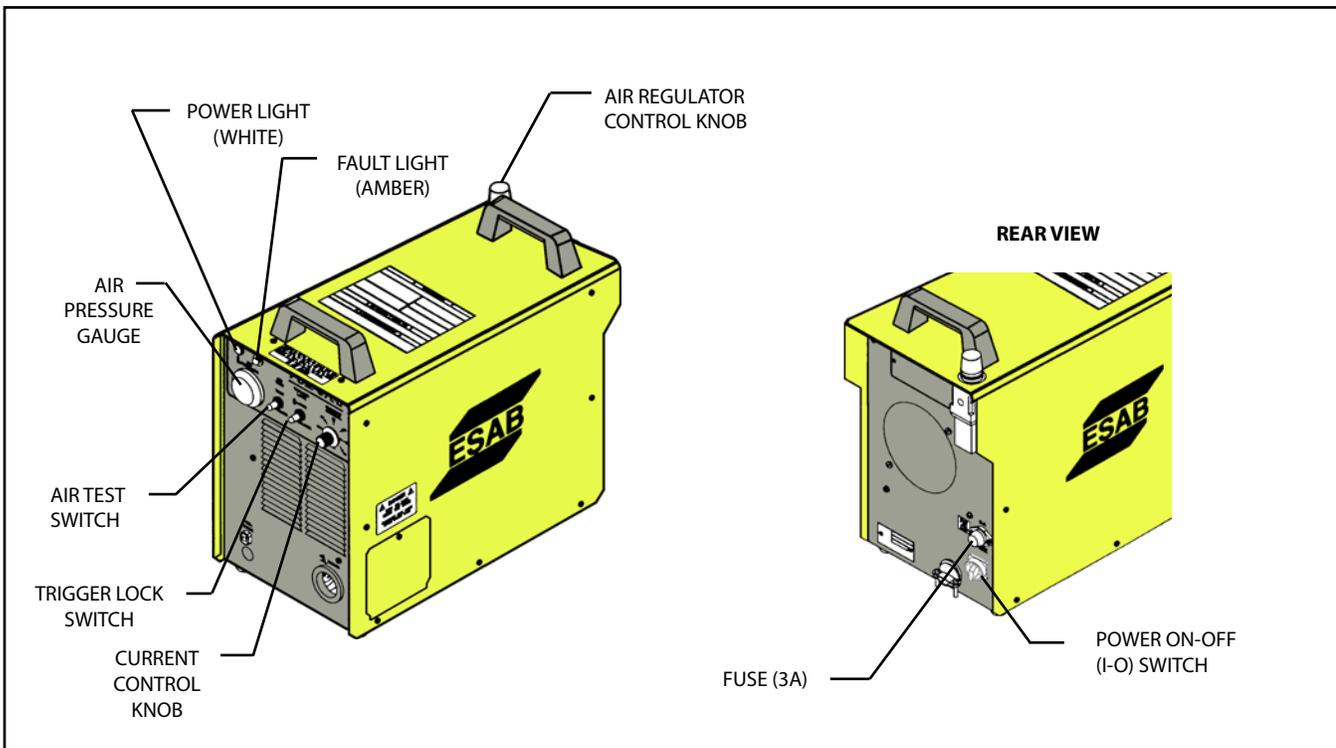

Figure 4-1. PCM-1125 Controls
4.2 PCM-1125 CONTROLS (FIGURE 4-1)